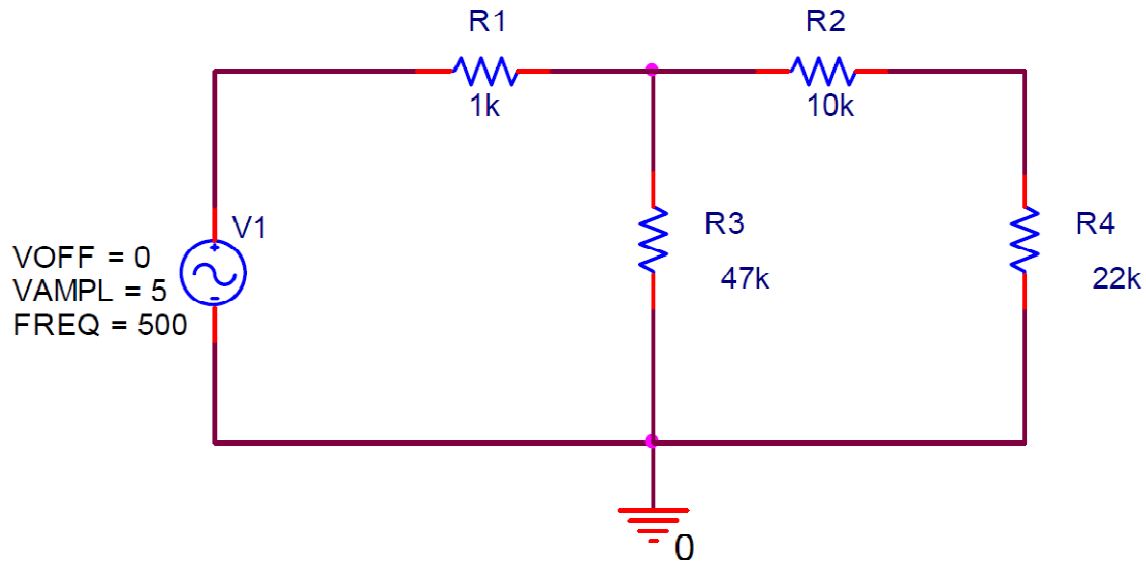
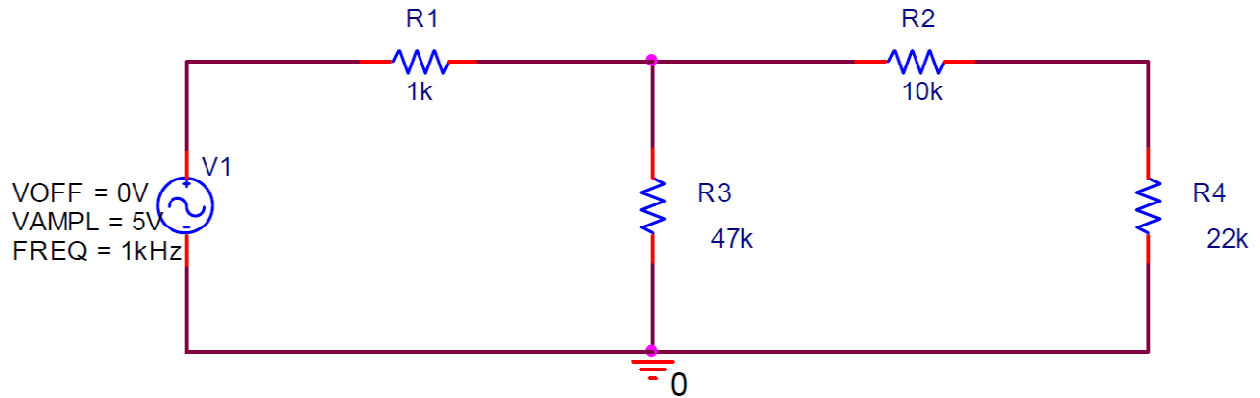

Figure 1: Assigned Circuit
Figure 2: Assigned Circuit # 2
First, draw the circuit shown in Figure 1 in the schematic window. Note that a sinusoidal voltage source is used as the input. Please refer to *Reference 1* regarding how to do a transient or AC analysis using PSPICE.
- (1) Plot both the input voltage and the voltage across the 22kΩ resistor in one figure.
- (2) Simulate the circuit in Figure 1 using a 500Hz square wave input signal. Plot both the input voltage and the voltage across the 22kΩ resistor in one figure. (Hint: Change the sinusoidal voltage source at the input to a square wave signal. The part name of the voltage source is 'Vpulse'. Set $V1=0$, $V2=5$, $TD=0$, $TR=1ns$, $TF=1ns$, $PW=1ms$, and $PER=2ms$.)
- (3) Simulate the circuit in Figure 1 using a 500Hz triangular wave input signal. Plot both the input voltage and the voltage across the 22kΩ resistor in one figure. (Hint: Change the sinusoidal voltage source at the input to a triangular wave signal. The part name of the voltage source is 'Vpulse'. Set $V1=0$, $V2=5$, $TD=0$, $TR=2ms$, $TF=1ns$, $PW=1ns$, and $PER=2ms$.)
- (4) Do the three figures of the input voltages and voltages across the 22kΩ resistor look as expected using different input signals? Explain Yes or No in details.
Change the frequency of V1 in Figure 1 to 1kHz as shown in Figure 2 and perform the following simulations: